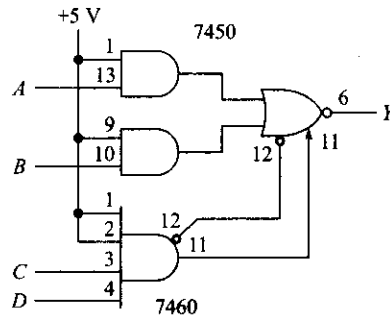

Fig. 14.51
14.21 What is the value of Y in Fig. 14.51 for each of these?